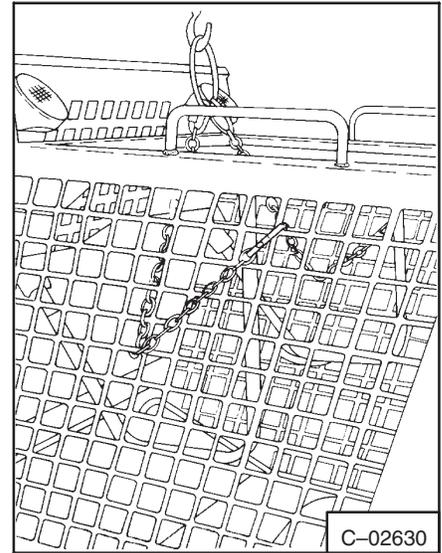

Fig. 5-6 Removing Operator Guard
3. Fasten a chain hoist to the operator guard (Fig. 5-6).